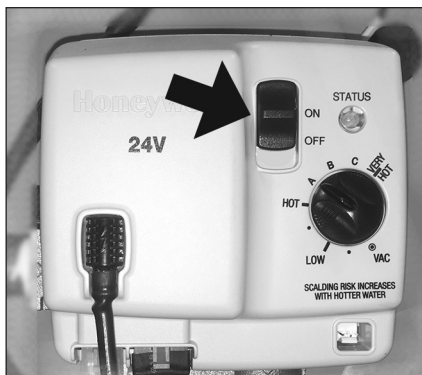

Figure 32 - Move switch to ON position.
- 3 Move the ON/OFF switch on the gas control valve to the ON position (Figure 32).